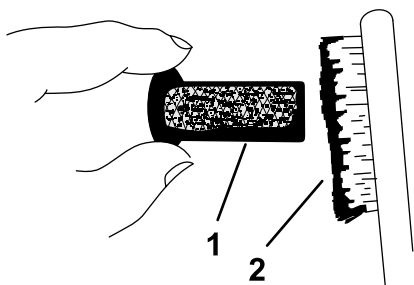

Figure 46
9. Use a brush to carefully remove carbon deposits from the spark-arrester screen (Figure 46).